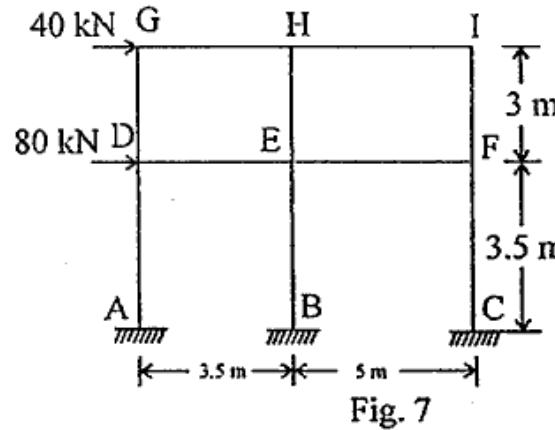

Fig. 7
7. Using cantilever method analyse the building frame subjected to horizontal forces as shown in Fig. 7. Sketch the bending moment diag.